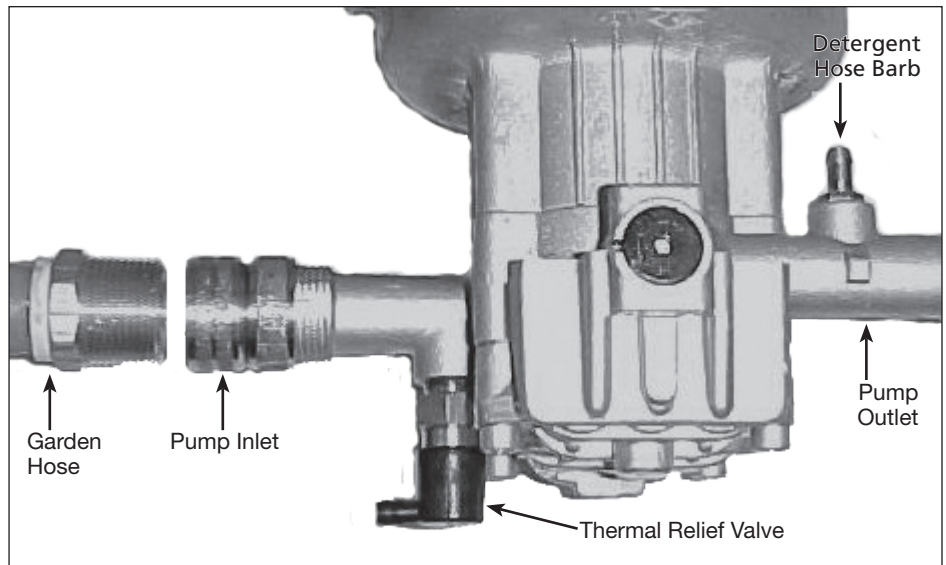
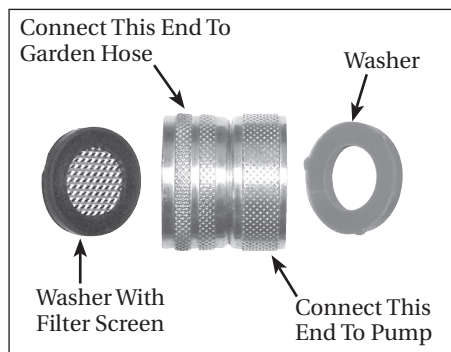

Figure 11 - Pump hook up
Figure 12 - Brass swivel adaptor
3. **Brass Swivel Adaptor** (see Figure 12). If it's not already attached to the pump inlet, assemble the brass swivel adaptor and attach it to the pump inlet (see Figure 11). Be sure to connect the correct side of the brass swivel adaptor to the pump.
4. Secure garden hose (not included) to the inlet connection on pump (See Figure 11).